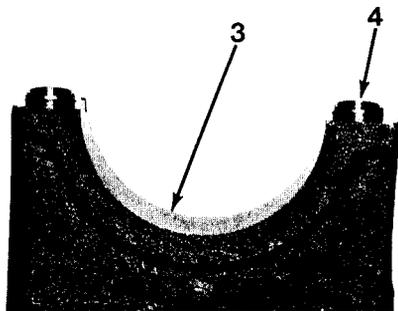

Figure 6-3
7. Remove five lower bearings (3, Figure 6-3).
8. Remove 10 ring dowels (4).